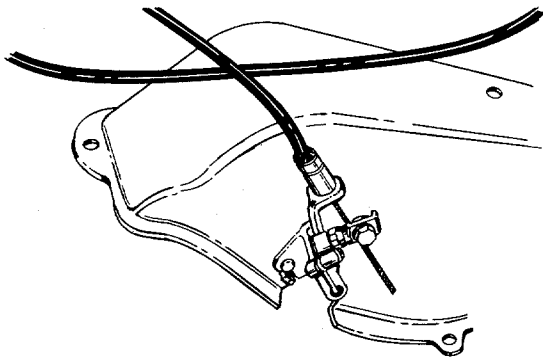

FIGURE 10.
- d. Push the mechanism on the end of the cable all the way onto the pin and hub assembly. Tighten the locking bolt while holding the mechanism firmly in place. See figure 10.